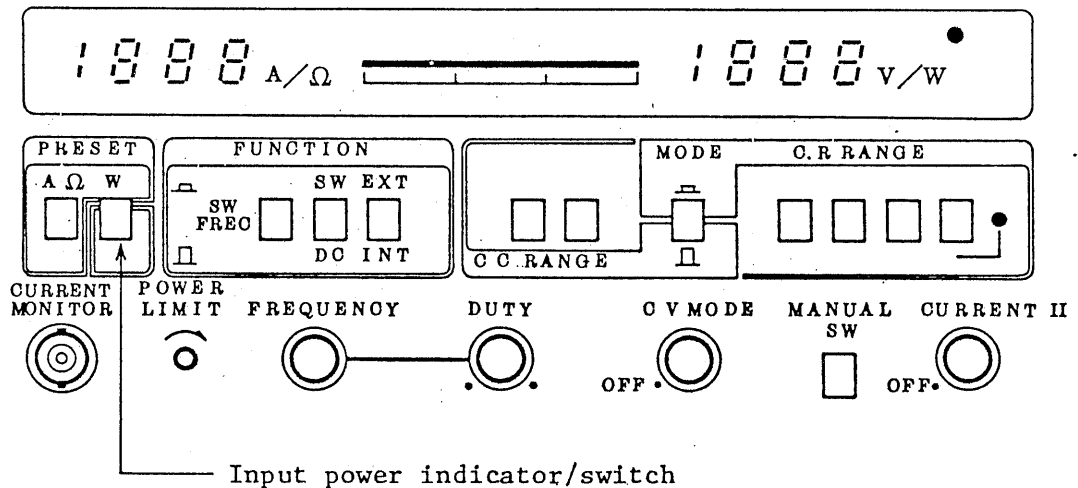

Figure 2-10-1
1. Loading power to the electronic load is indicated on the power indicator. But the value also may be indicated in digital figures with the precision of  $\pm 3\%$  F.S + 1 digit. The loading power indicator/switch in Fig. 2-10-1 is commonly used for presetting the power limit.